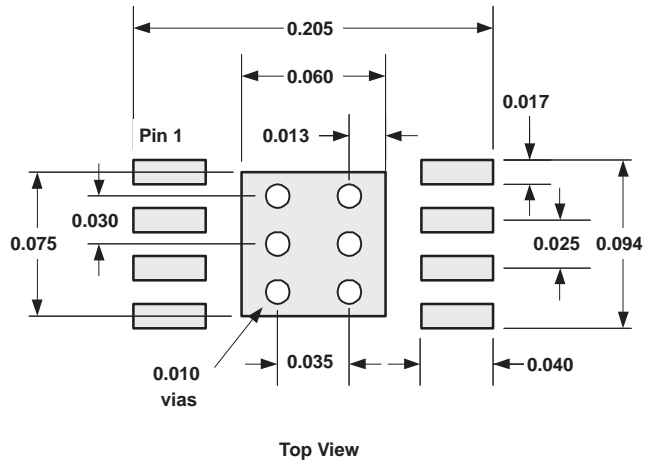
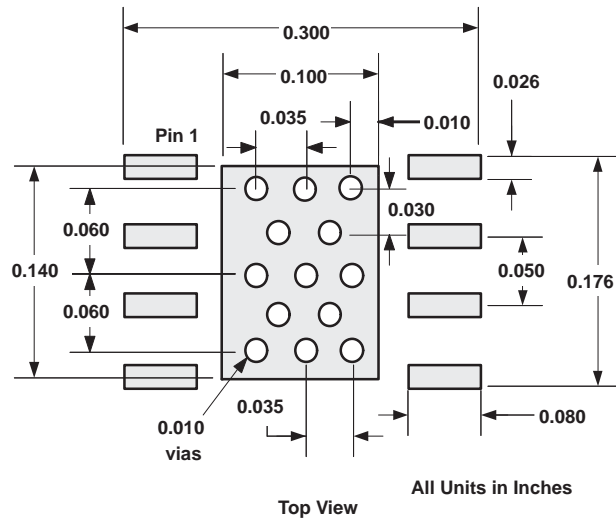

Figure 44. DGN PowerPAD PCB Etch and Via Pattern
Figure 45. DDA PowerPAD PCB Etch and Via Pattern
- PCB with a top side etch pattern is shown in Figure 44 and Figure 45. There should be etch for the leads and for the thermal pad.